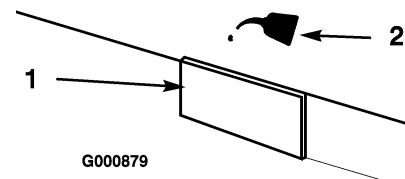

Figure 26
- C. Soak the element in new engine oil. (Figure 26). Squeeze the element to remove excess oil.